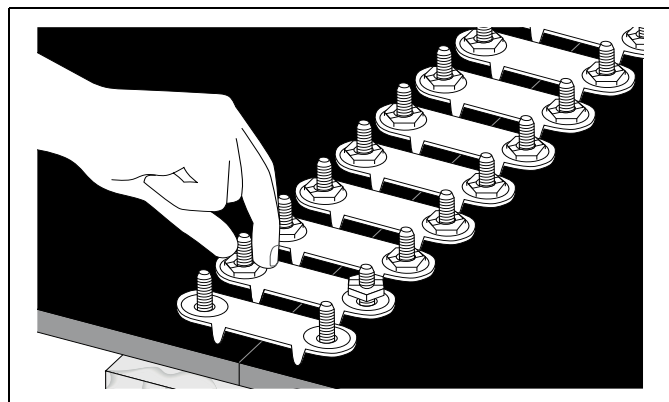

Figure 4J
7. Assemble all top plates the same way as in direction 6. Start nuts down by hand far enough so that wrench will engage bolts. *(See Figure 4J.)*